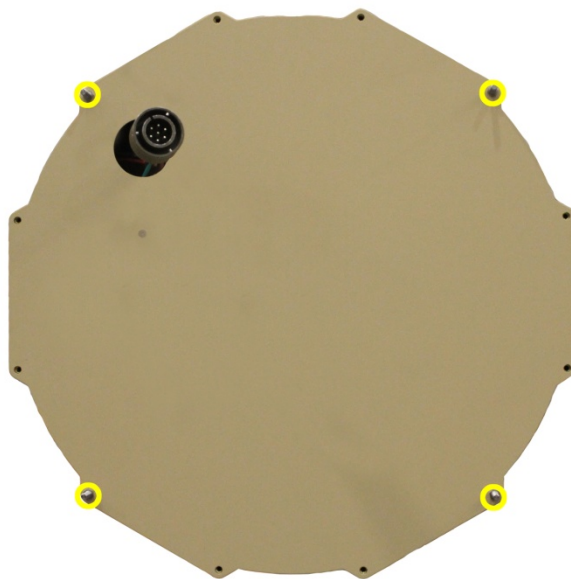

Figure 5.4-1 Housing Rear Panel Nut Locations
2. Remove housing rear panel by removing the 4 threaded studs using a 1/4" socket drive. See Figure 5.4-1.